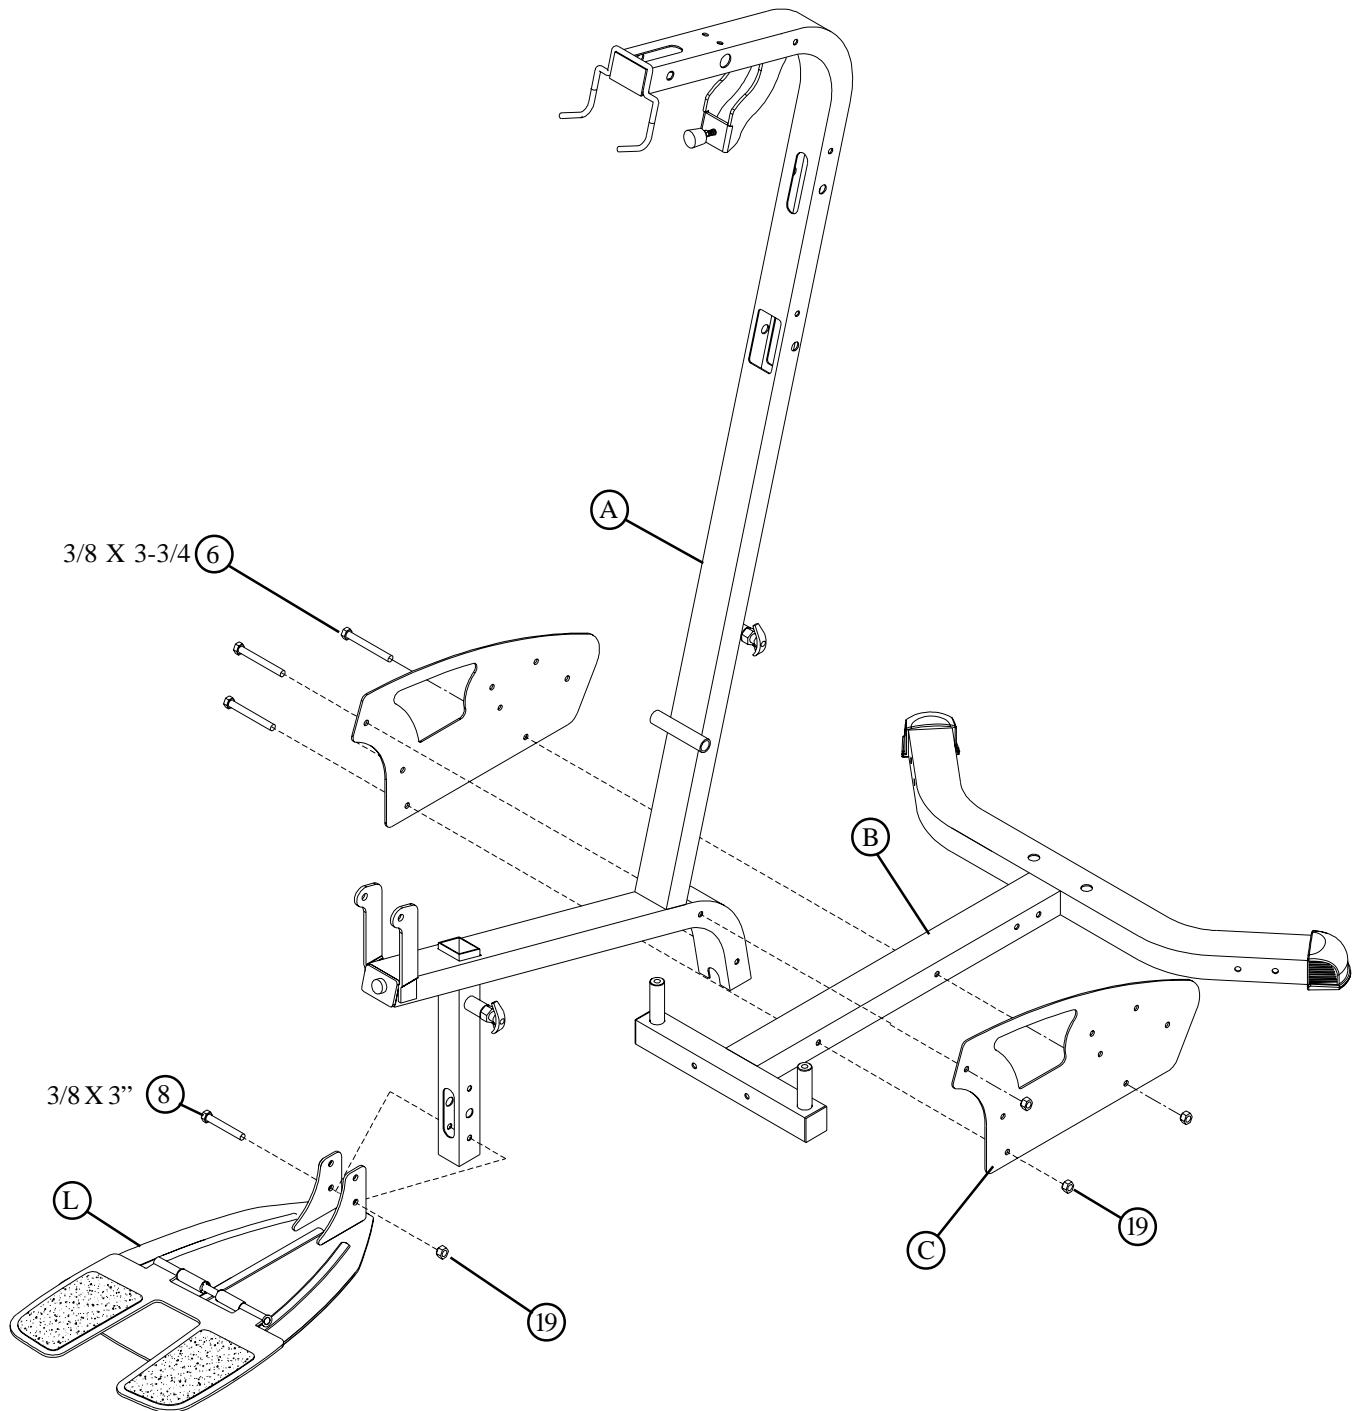

FIGURE 1
- **LOOSELY** assemble two BASE PLATES (C) to the FRAME (A) and BASE (B) using three 3/8 X 3-3/4" BOLTS (6) and four 3/8" LOCK NUTS (19). See FIGURE 1.
- **LOOSELY** assemble the FOOTPLATE (L) to the lower holes in the FRAME (A) using one 3/8 X 3" BOLT (8) and one 3/8" LOCKNUT (19) as shown in FIGURE 1.